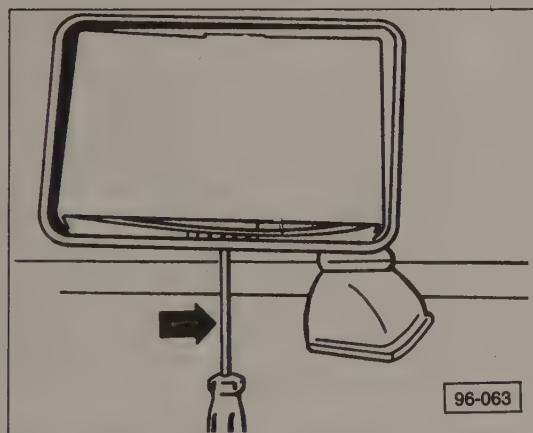

Fig. 5-18. Electric/heated side mirror detent being turned in direction indicated by arrow.
1. Remove the mirror glass by using a screwdriver to turn the detent through the bottom opening of the mirror. See Fig. 5-18. Hold the mirror still. Disconnect the electrical connectors.